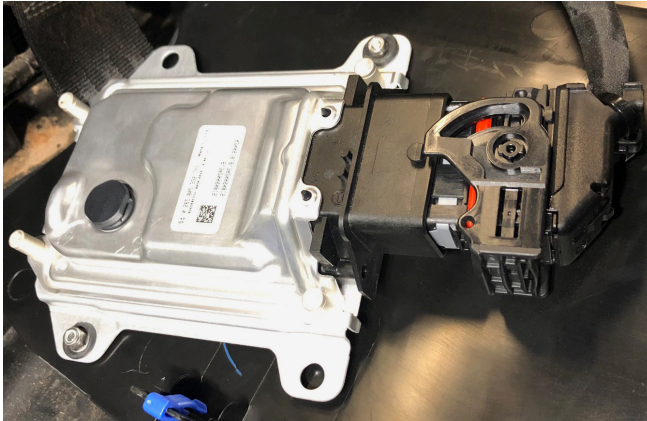

Figure 16a: Initial ECU latch orientation.
1. With the first 16 inches of the main harness still in a loose loop, plug the ECU into the main harness (Figure 16a). The connector will secure and click after turning the latch gently.